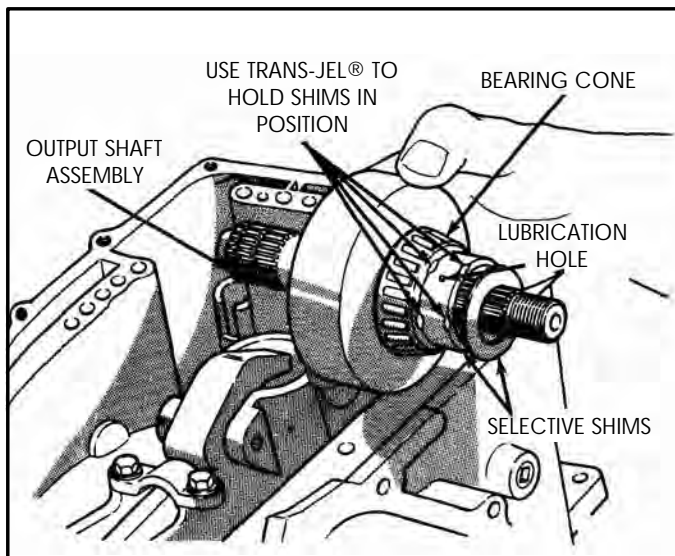

Figure 174
1. Install the 13.65 mm (.537") and the 1.34 mm (.053") gaging shims on the rear planetary ring gear hub using TransJel® to hold the shims in place, as shown in Figure 174.